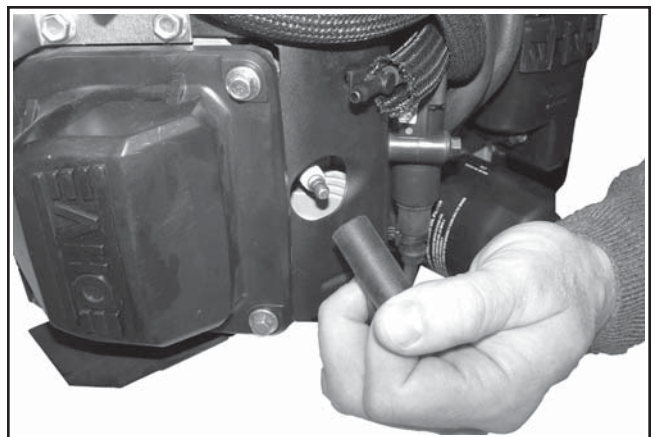

Figure 8-1. Disconnect Spark Plug Leads.
1. Disconnect the leads from the spark plugs. See Figure 8-1.